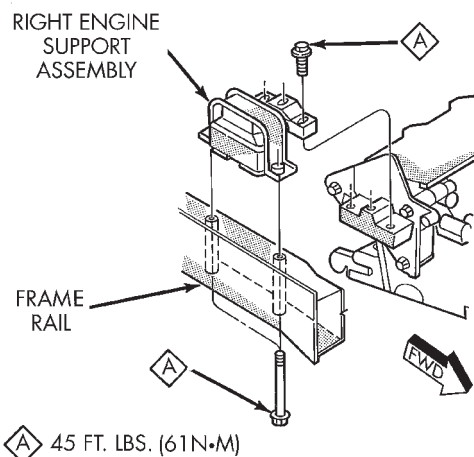

Fig. 14 Engine Mounting—Right Side
(1) Raise vehicle on a hoist and remove inner splash shield. Remove the right engine support assembly vertical fasteners from frame rail (Fig. 14).
(2) Lower vehicle. Remove the load on the engine motor mounts by carefully supporting the engine assembly with a floor jack.
(3) Remove the three bolts attaching the engine support assembly to the engine bracket.
(4) Move the air conditioning dryer aside.
(5) Remove coolant recovery system tank. Refer to Group 7, Cooling System for procedure.
(6) Remove right engine support.
(7) Remove the three bolts attaching the engine support bracket to the cylinder block.
(8) Reverse removal procedure for installation. Refer to (Fig. 14) for torque specifications.